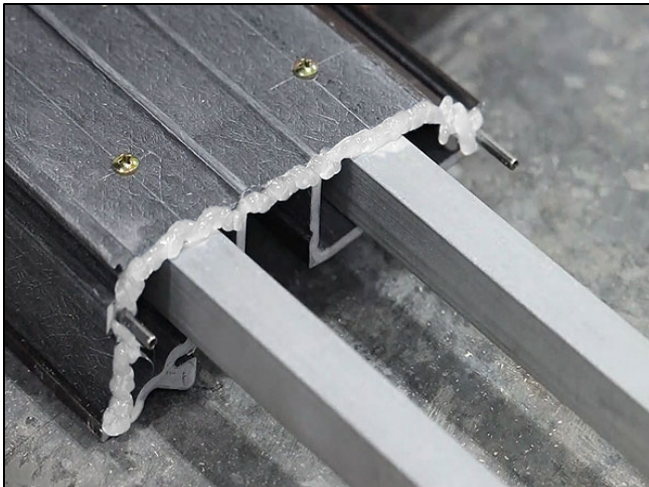

Figure 65
2. Apply sealant along the face of the sill and install alignment pins in the 2 outer holes. Pins should be inserted approximately 1/3 of the way. See Figure 65.